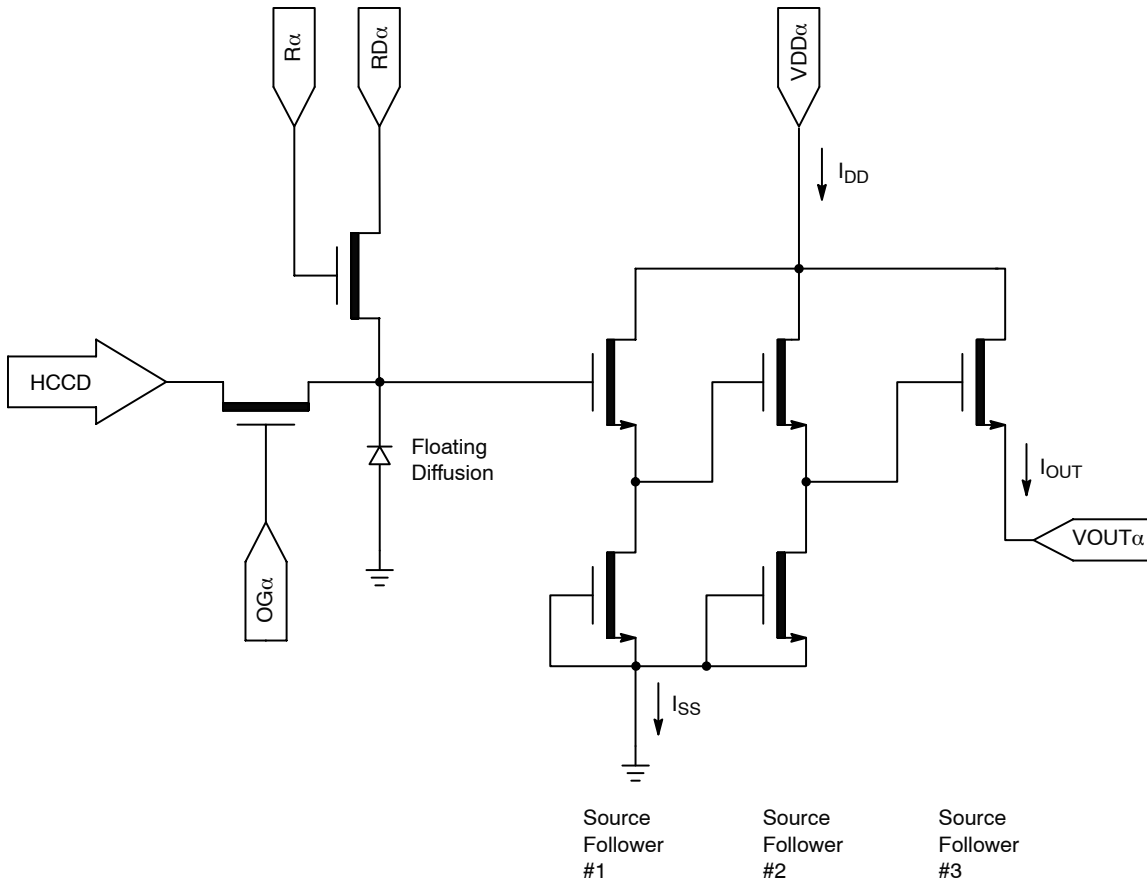

Figure 16. Output Amplifier
- The maximum DC current is for one output. I_{DD} = I_{OUT} + I_{SS}. See Figure 16.